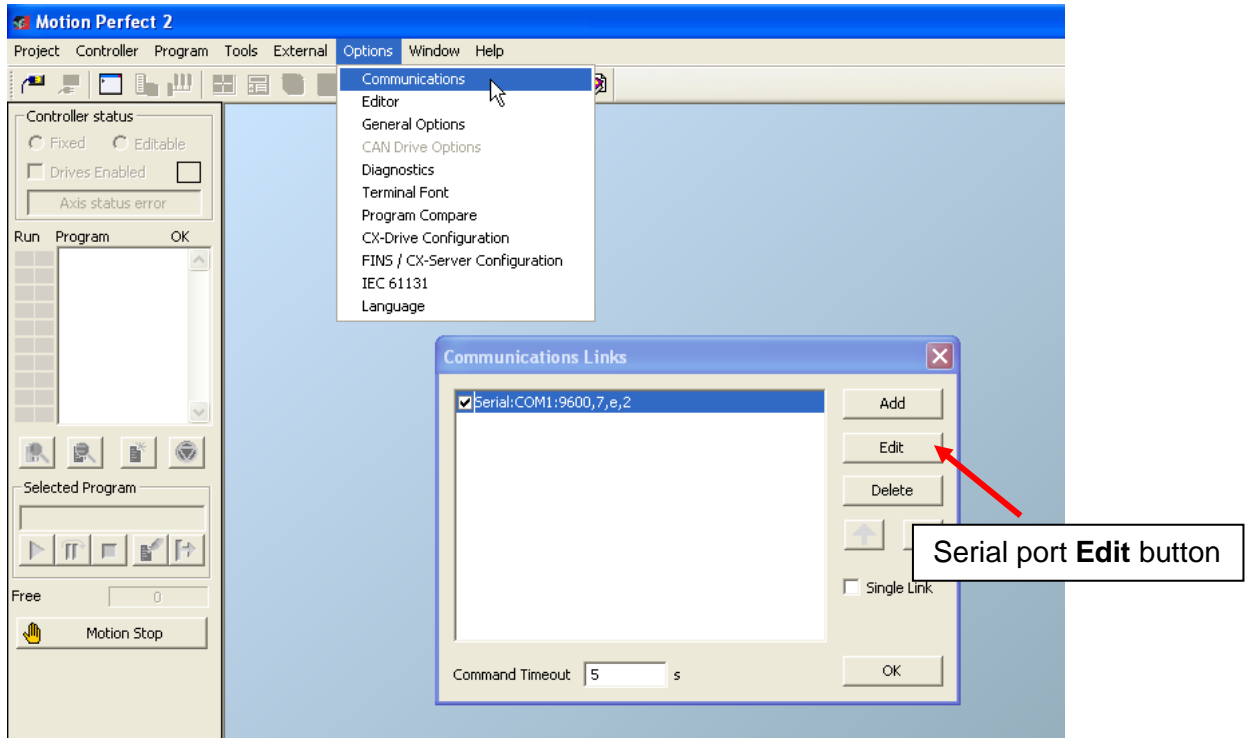

Fig 3 – Communication Options Screen – Edit to change port settings
3. Go to the **OPTIONS \ COMMUNICATIONS** menu as shown in Fig 3.
4. Uncheck "Packet Comms" if checked, Fig3.